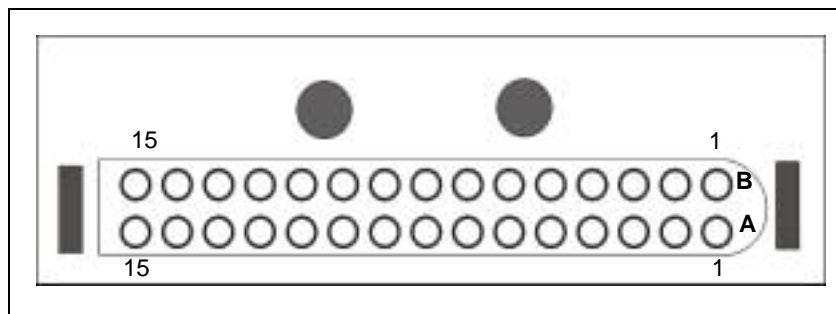

Figure 19: 30-pin Bendix connector.
Step 2 – Using *Figure 19* and External Cable Expected Readings – Table 3-3 below for the correct pin locations, connect the negative multi-meter lead to the connector pin on Row A and connect the positive multi-meter lead to the connector pin on Row B.